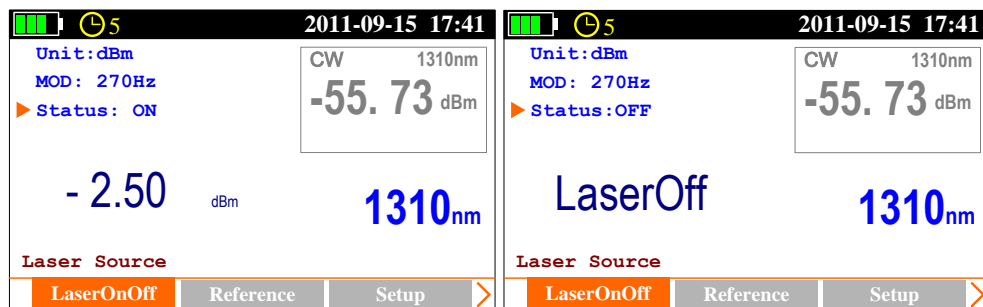

Figure 3.5
- Press to turn on laser source, see Figure 3.5; press again to turn off laser, see Figure 3.5;